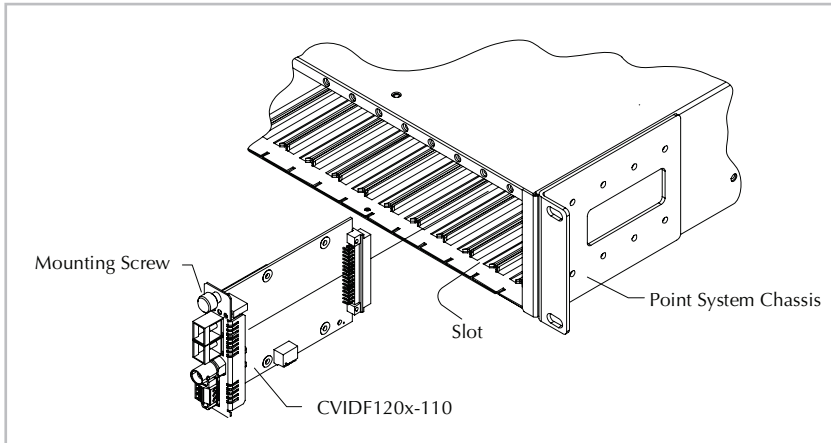

Figure 14: Inserting Video Receiver Card into Point System Chassis
1. Position the video receiver card as shown in Figure 14.